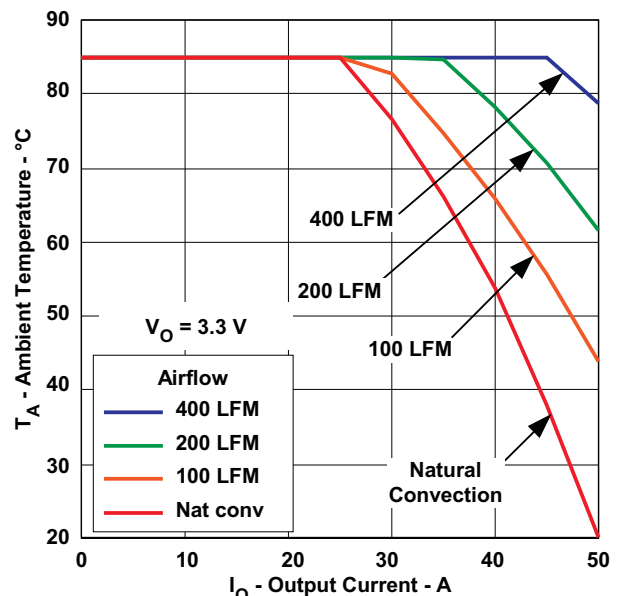
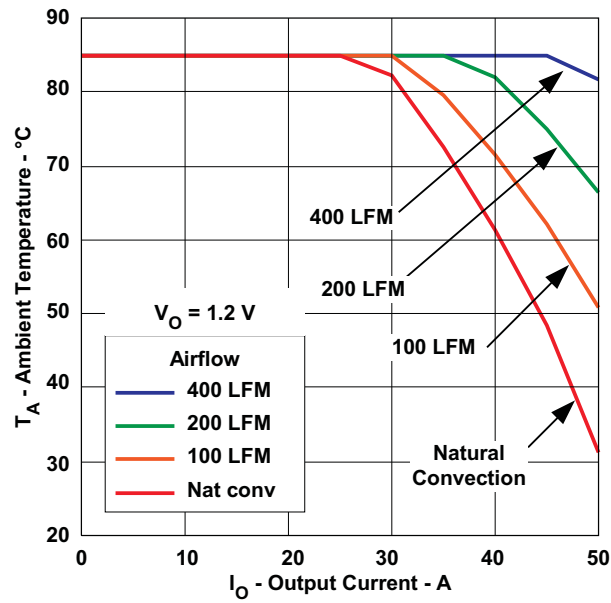

Figure 4. Ambient Temperature vs. Output Current
Figure 5. Ambient Temperature vs. Output Current
(12) The temperature derating curves represent the conditions at which internal components are at or below the manufacturer's maximum operating temperatures. Derating limits apply to modules soldered directly to a 100 mm × 100 mm double-sided PCB with 2 oz. copper. Applies to Figure 4 and Figure 5.